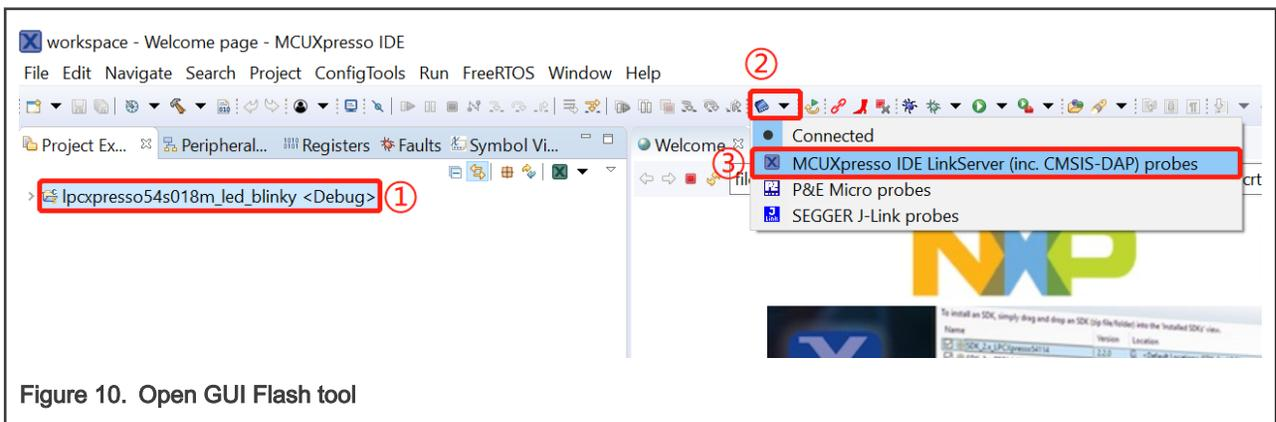

Figure 10. Open GUI Flash tool
2. Open **MCUXpresso IDE LinkServer (inc.CMSIS-DAP) probes** by clicking the button in the order as shown in Figure 10.